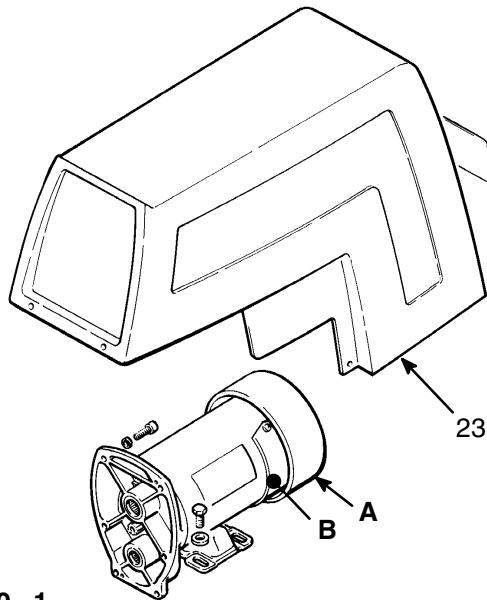

Fig 20-1
Remove the pressure control cover . Remove the motor shield (23). Remove the fan cover (A) and the inspection covers (B). *Refer to Fig 20-1.*